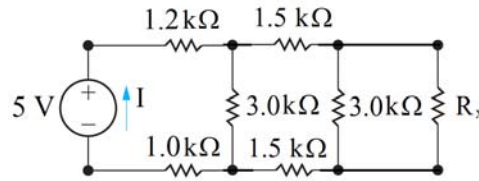

Figure 6: Series-Parallel Circuit
4. For the circuit in Figure 6, if  $I = 1.25 \text{ mA}$ , what is the value of  $R_x$ ?